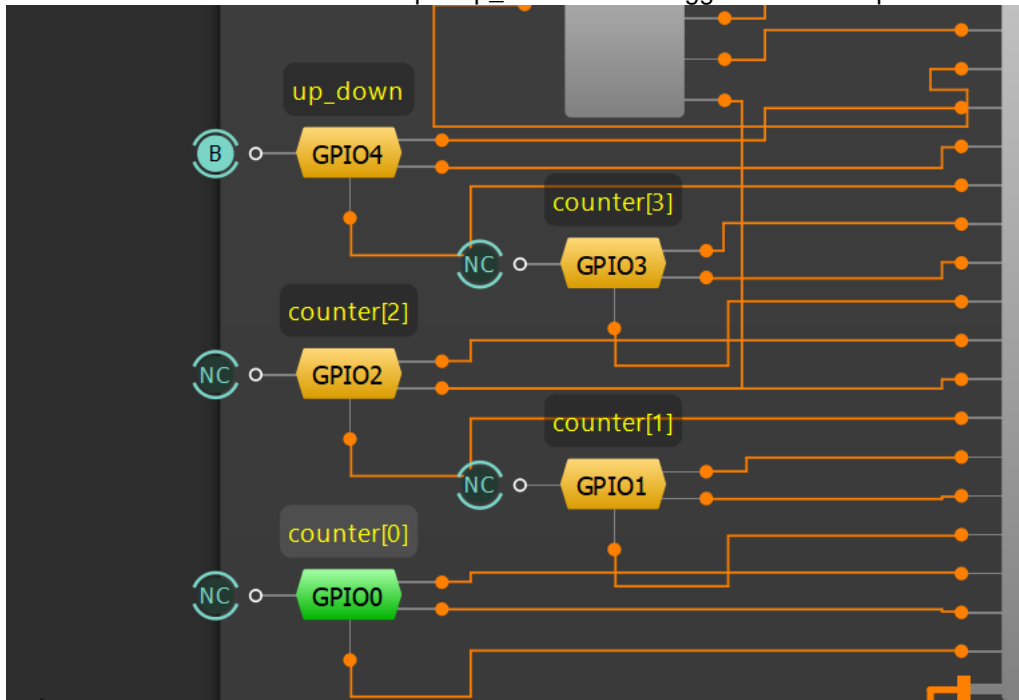

Figure 16: Forge FPGA Window
- Close the FPGA Editor and go to the ForgeFPGA widow (Figure 16). Selecting the Debug tab will enable the debug controls. Double click on the VDD pin and set VDD= 1.2v. Then double click on VDDIO pin and set VDDIO= 1.8v.